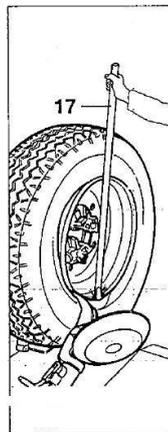

Fig.7.6
- B. Rotate the wheel and at the same time move the hook tool forward inserting it between rim and bead until it is anchored to the bead (See Fig.7.6).
- E. Insert lever LA (17, Fig.7.6) between rim and bead at the right of the tool.
- L. Insert lever LA (17, Fig.7.6), between rim and bead at the right of the tool.